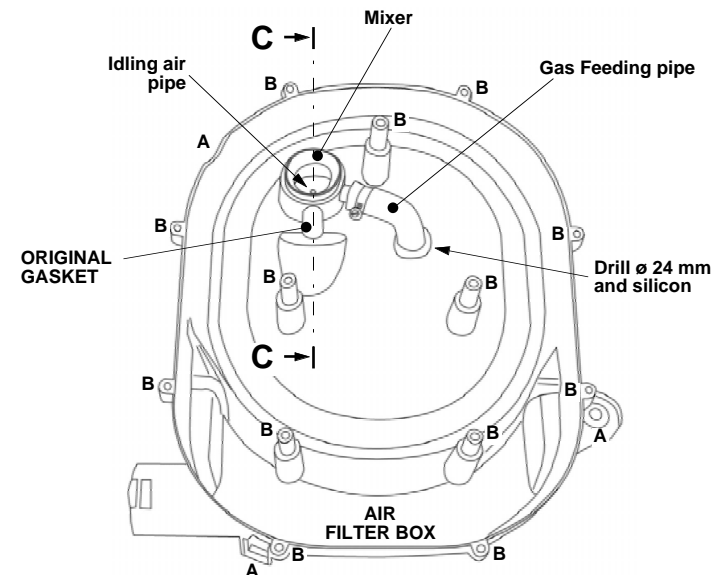

Fig. 4
- Remove the air filter box by acting on the two screws and on the fixing spring (details A figure 4).
- Separate the box cover from the filter box by unscrewing the thirteen locking screws (details B figure 4). Remove the air filter.
- Eliminate a part of the oil breather as per the figure 3 in order to allow the mixer assembly as per the figure 4 and section C-C.
- Assemble the mixer as per the figure 4 by inserting it on the lower part of the filter box (the one turned towards the throttle body) so that it fits the original gasket, and the idling air pipe inserted on the diffusers will get stuck in the idling air cap seat "D", previously inserted.
- Screw the pipe fitting of the kit on the mixer. Drill a \varnothing 24 mm hole in the inside part of the filter box as per the figure 4 and let the gas feeding pipe coming from the reducer pass through it. Silicon the area between the gas pipe and the filter box.